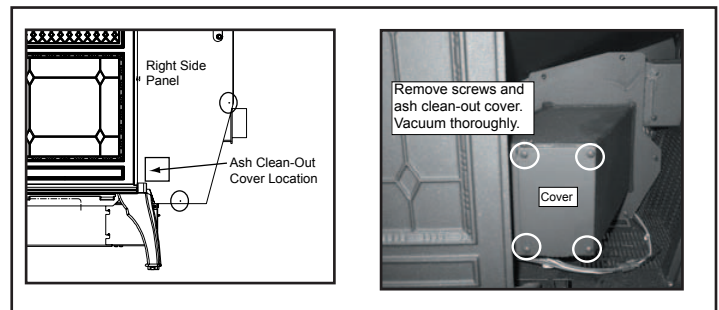

Figure 27.3
- Locate the ash clean-out cover. Remove 4 screws and remove the cover. Vacuum the area thoroughly. **Figure 27.3.**